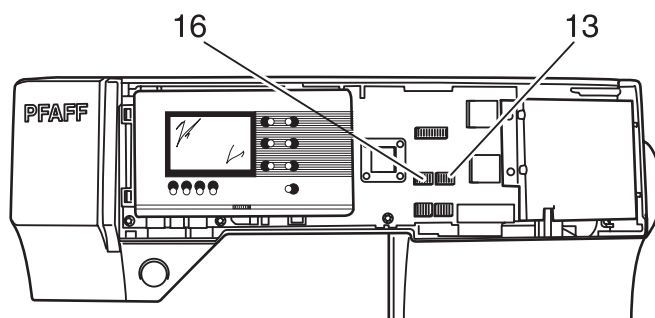

Fig. 110
- Remove connection plug 16 from the circuit board of the front housing panel and pull the cable downward (fig. 110).
- Remove connection plug 13 from the circuit board of the front housing panel and pull the cable downward (fig. 110).
- Mount connection plug 13 on the circuit board of the front housing panel (fig. 110).